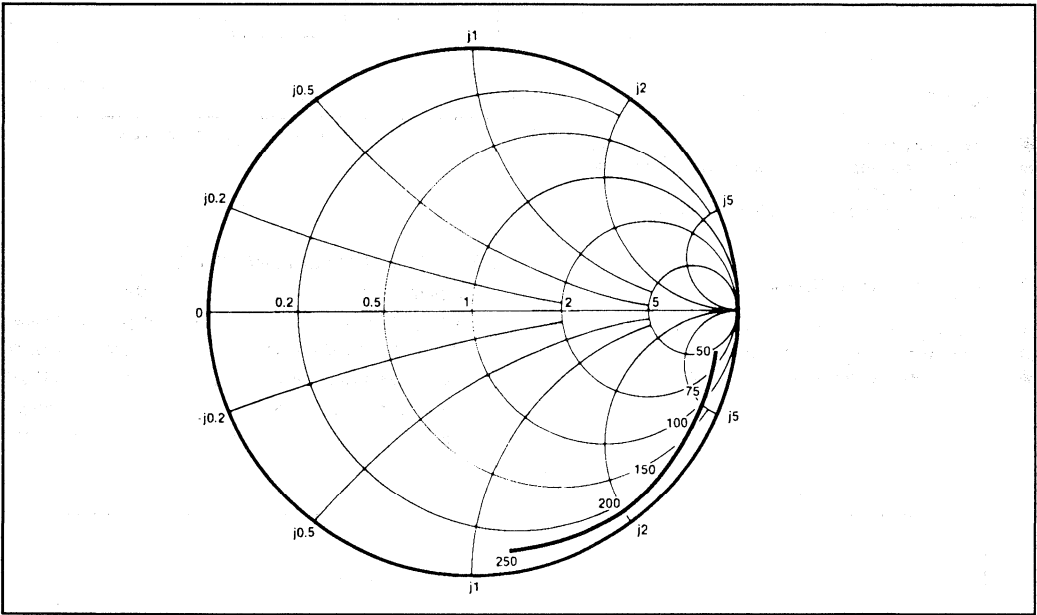

Figure 5 : Typical impedance. Test conditions: supply voltage 5.2V, ambient temperature 25°C, frequencies in MHz, impedance normalised to 50 ohms.
- 5. Input impedance is a function of frequency. See Fig.5.